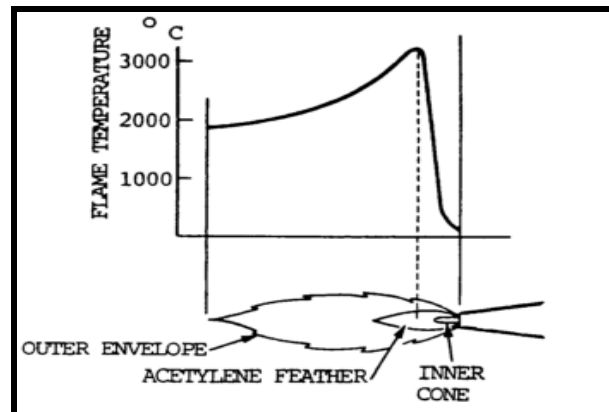

Figure-1: The temperature of the flame.
2.1 Temperature Zones in Flames – The welder can increase the oxygen or decrease the acetylene until the length of the inner cone is decreased to the desired amount. The temperature of the inner cone of the flame is maximum (figure-1).